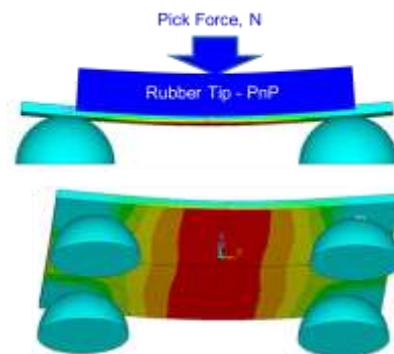

Fig. 3. Modeling result.
- Finite element modeling result (Fig. 3) has indicated that the die crack encountered was indeed caused by the ejector pin during die pickup process causing excessive die bending stress since the die crack signatures matches with the high stress location.